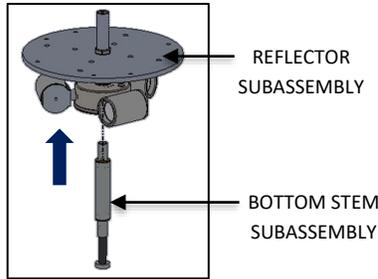
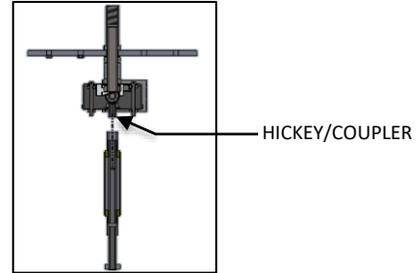

FIG. 11 – BOTTOM STEM INSTALLATION
FIG. 12 – SECTION VIEW SHOWING BOTTOM STEM INSTALLATION
2. Attach BOTTOM STEM to REFLECTOR SUBASSEMBLY as shown in FIG.11 at the HICKEY/COUPLER which is preassembled inside of REFLECTOR SUBASSEMBLY as shown in FIG. 12.